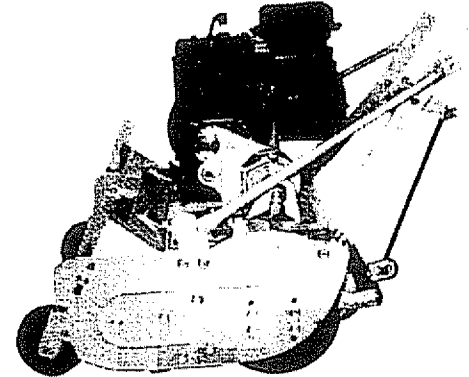

FIGURE 1: These parts, and the grass catcher, should have been removed from the shipping carton.
**STEP 1:** Remove the grass catcher, handle assembly, and rods from the box (see Fig. 1, grass catcher not shown).